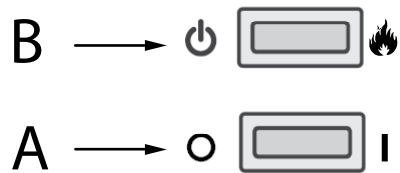

Fig.2
1. Press Switch 'A' to **(0)**. (See Fig.2)
8. Press Switch 'B' once to turn on flame effect. (See manual control section and Fig.2).
9. Press Switch 'A' to 'ON' (I) position. (See Fig.2)
2. Press Switch 'A' to the 'OFF' (0) position (See Fig.2)
9. Press Switch 'A' to the 'ON' (I) position (See Fig.2).
Check the plug is connected to the wall socket correctly and that Switch 'A' Fig. 2 is in the 'ON' (I) position.